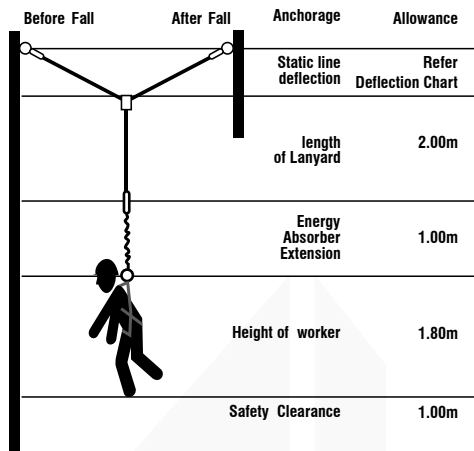

Fig. 1
- **Fall Clearance:** There must be sufficient clearance below the anchorage connector to arrest a fall before the user strikes the ground or an obstruction. When calculating fall clearance, account for a MINIMUM 1M safety factor, deceleration distance, user height, length of Lanyard/SRL, and all other applicable factors as shown in fig. 1.